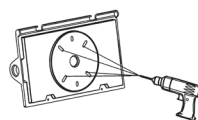
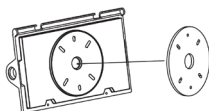
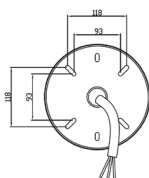

Fig. 3
Fig. 4
Fig. 5
2. The back plate has a cast-in drill pattern template to match standard recessed junction boxes and a 1/2" NPT tapped hole for surface conduit. Prepare the back plate for mounting by drilling or knocking out the appropriate holes (Fig. 3). Install the round foam sealing gasket when attaching the back plate to the wall (Fig. 4). Hole distances are illustrated in Fig. 5.